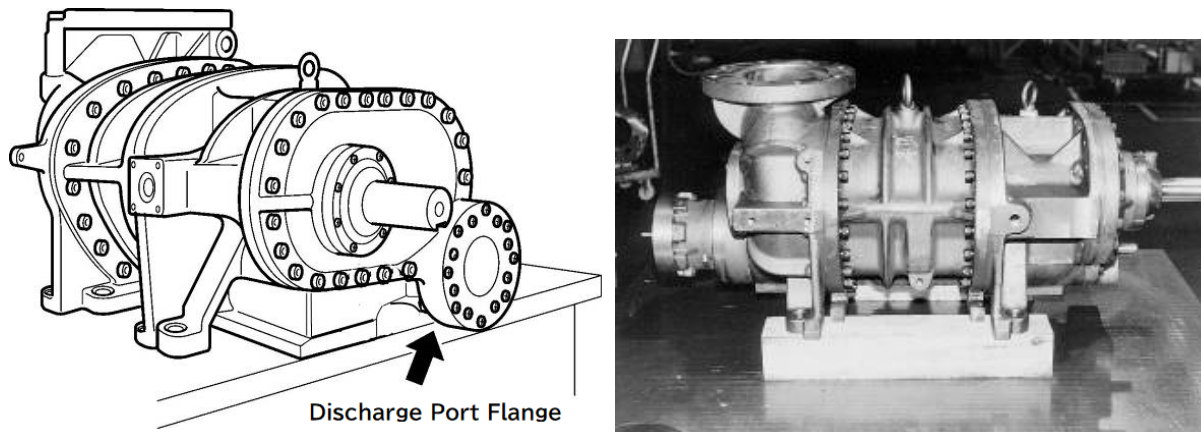

Figure 5-2
- Place the compressor on the special stand or use a temporary stand as shown in Figure 5-2. Then remove 6 to 8 hexagon head cap screws around the bottom flange part tightened rotor casing [1] to suction cover [5] / bearing head [11].
Since the outer part of the discharge port flange extending downward from the leg plane of the suction cover and bearing head, place the compressor with the flange part outside of the workbench edge (see Figure 5-2 in next page).